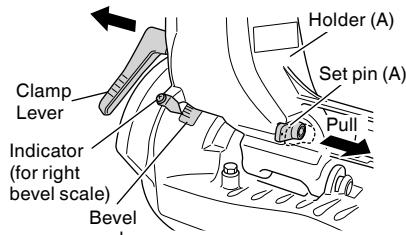

Fig. 29
- (1) Loosen the clamp lever and bevel the saw blade to the left or to the right. When tilting the motor head to the right pull the set pin (A) towards the rear. The clamp lever adopts a latchet system. When contacting the work bench and the main body, pull the clamp lever in the direction of the arrow mark as illustrated in Fig. 29, and change the direction of the clamp lever.
- (2) Adjust the bevel angle to the desired setting while watching the bevel angle scale and indicator, then secure the clamp lever.
- (3) Follow the procedures indicated in paragraphs 4,5 and 6 above. For maximum dimensions for bevel cutting, refer to "SPECIFICATIONS" table on page 10.